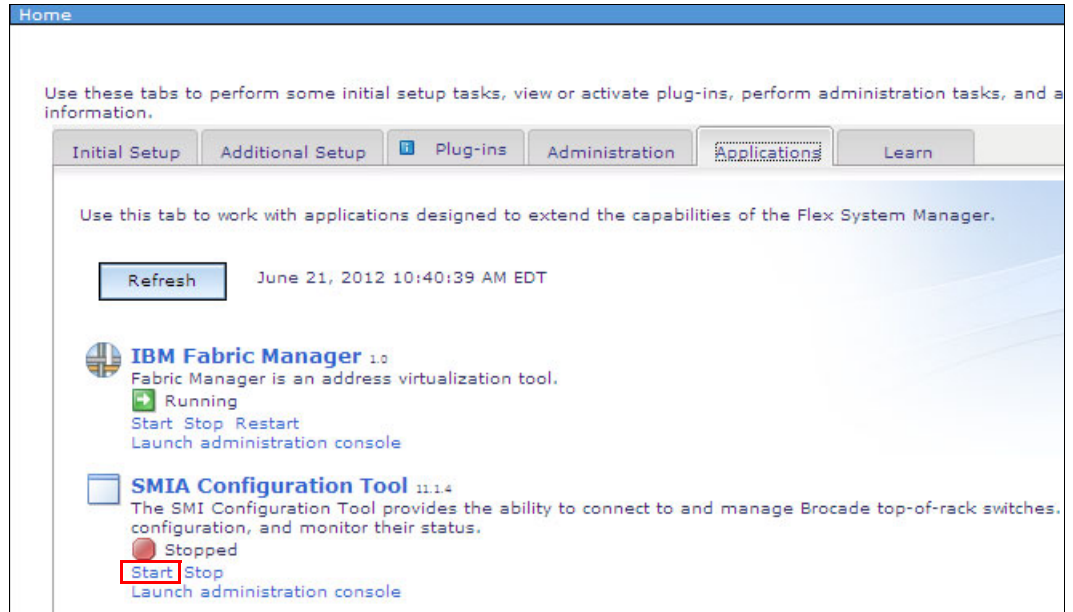

Figure 6-156 Applications tab in the FSM
1. Figure 6-156 shows the Applications tab main window. Click **Start** to run SMIA.